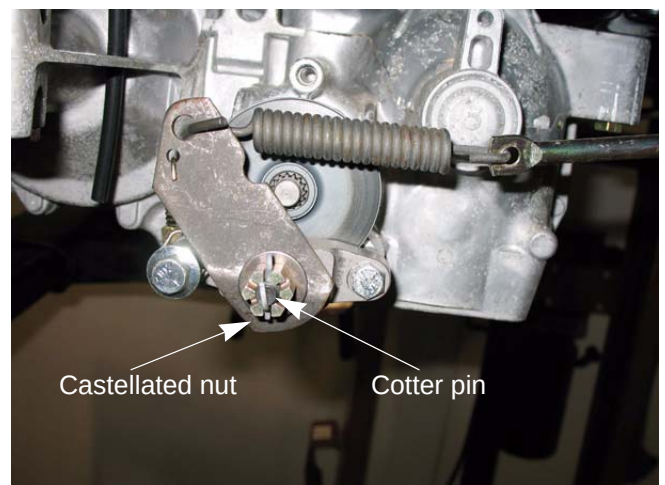

Figure 3.3
4. Remove the cotter pin locking the castle nut on the brake caliper. See Figure 3.3.